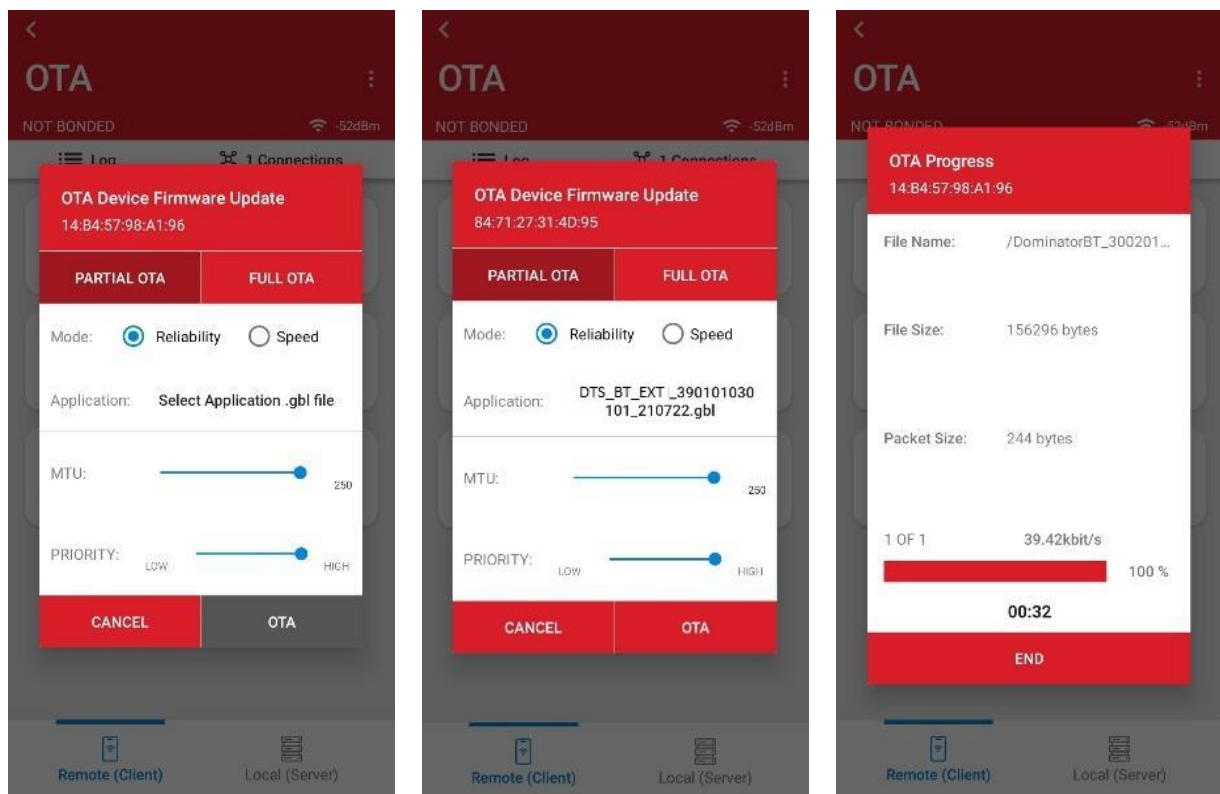

Fig. 5.11. Selecting the firmware file
7) In the window that appears, select the firmware file and press **“OTA”** (Fig. 5.11).